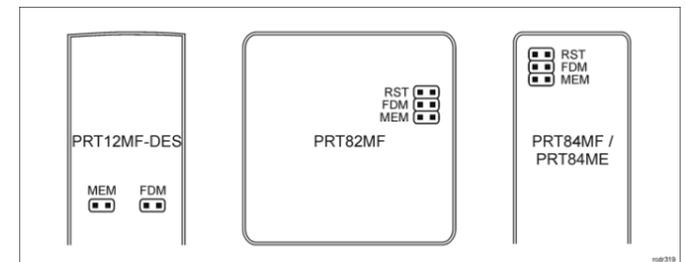

Fig. 2 Service contacts
2. Place jumper on MEM contacts (fig. 2).
The update requires connection of reader to computer with RUD-1 interface (fig. 2) and starting RogerVDM software. The latest firmware file is available at [www.roger.pl](http://www.roger.pl).
2. Place jumper on FDM contacts (fig. 2).